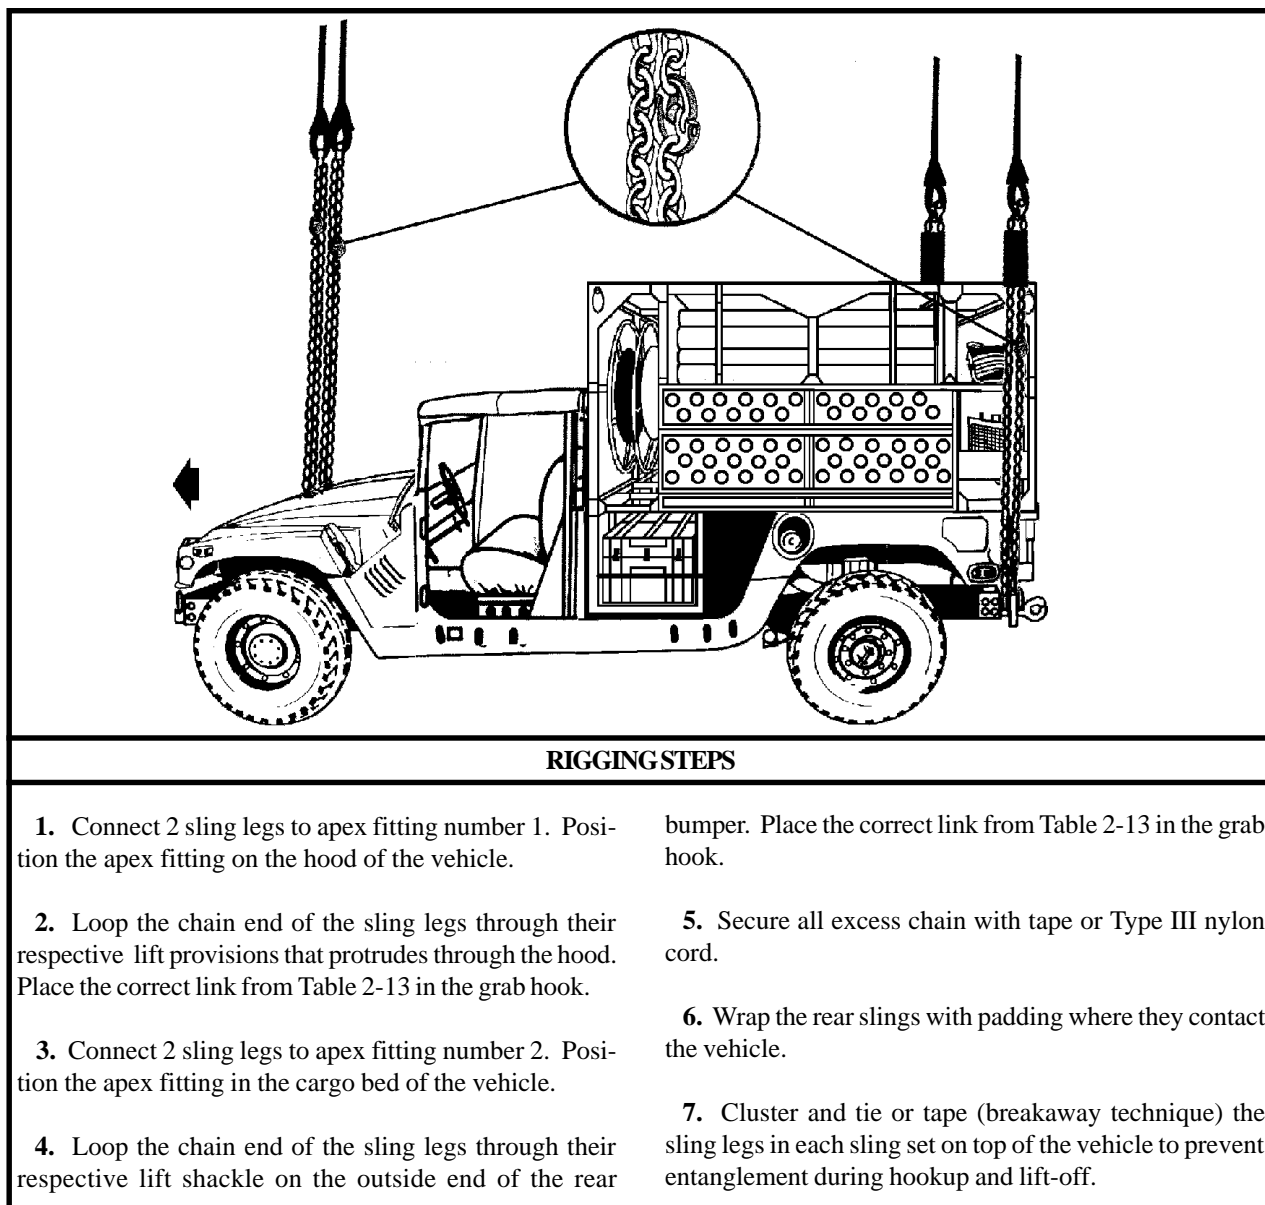

Figure 2-12. M1097 (HMMWV) With 2 or 3 Mast AETC Configuration
(2) **Rigging.** Rig the load according to the steps in Figure 2-12.